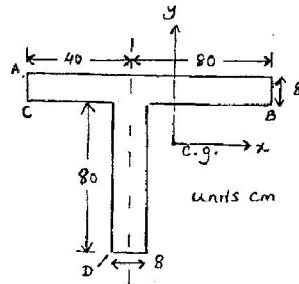

Fig. 1 Qn. 11 (a)
11. (a) The section shown in Fig. 1 is subject to a bending moment $M_x = 30 \text{ kNm}$. Determine the bending stresses at the corner points A, B, C and D.